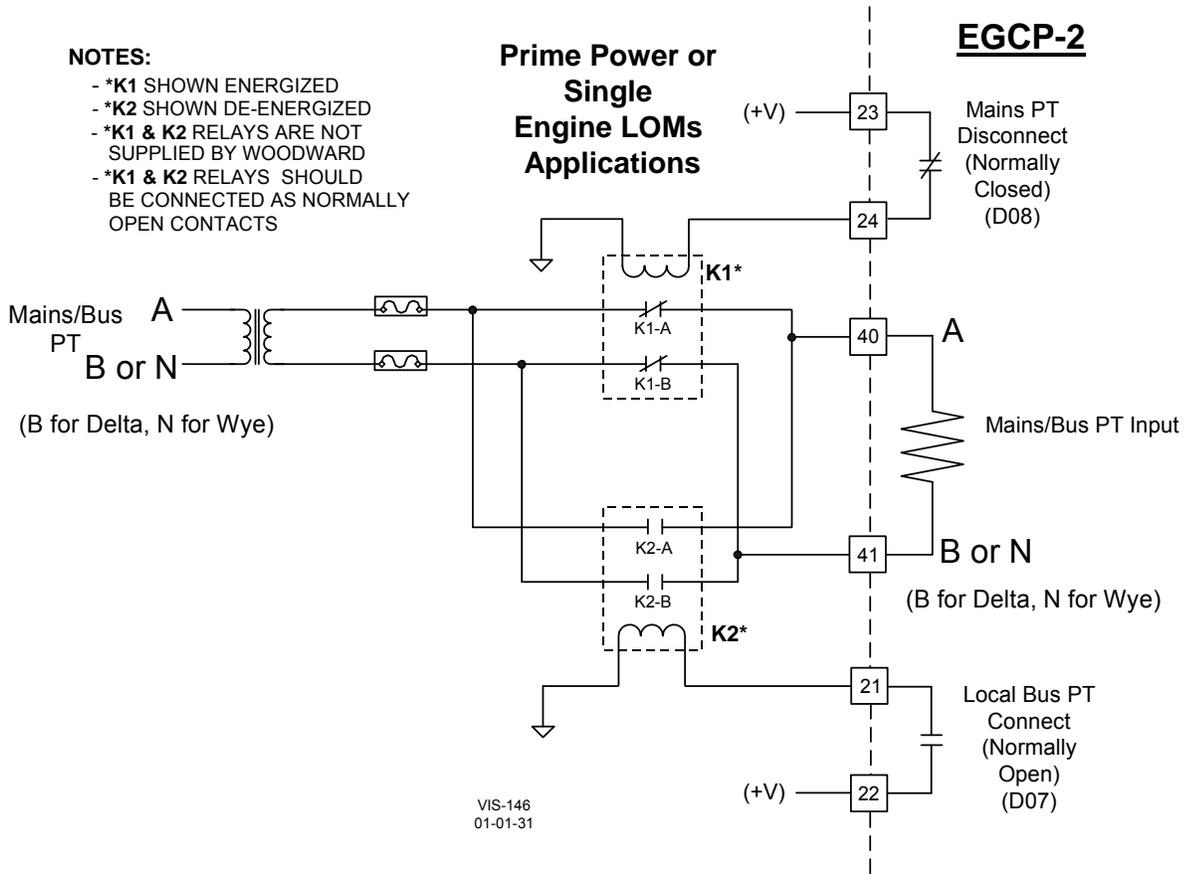

Figure 3-8a. Utility/Local Bus Single PT Wiring for Delta and WYE Configuration (two relay)
For this reason, when only one PT signal is being connected, the external relay logic to remove the incoming Mains/Bus PT signal must still be applied (Figure 3-8a).
1. Figures 3-8a and b PT wiring can only be used in a Prime Power Application.
2. Figure 3-8a can be used for a Single Engine LOMs detection.